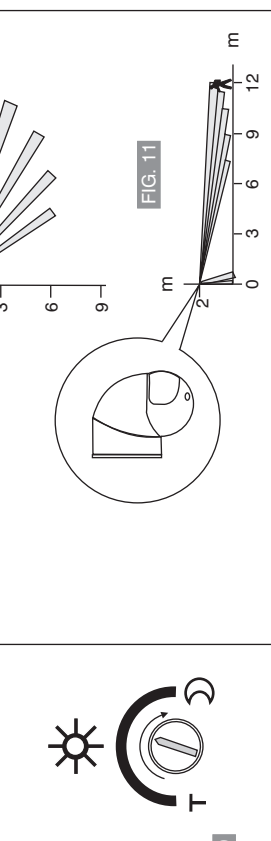

FIG. 10
- Adjust the motion sensor to cover the desired detection area (coverage angles FIG. 10). For a smaller coverage area, point the sensor down; for a larger coverage area, point the sensor up.